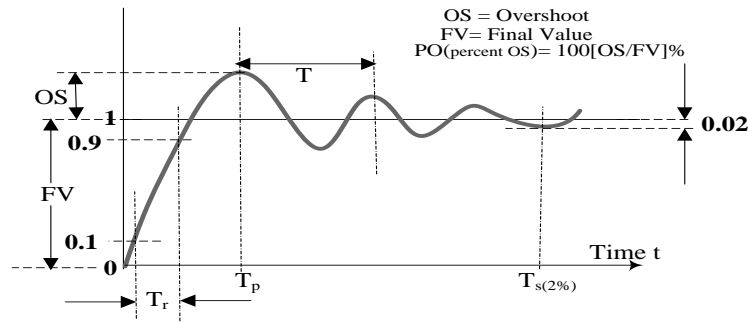

Figure 6.1: Typical unit response of a system
The typical unit step response of a second order system shown in Figure 6-1 is used to define various performance criteria such as the 10% to 90% Rise time ( $T_r$ ), the Peak time ( $T_p$ ), the percent overshoot (PO), the 2% Settling time ( $T_s$ ), and the Damped Natural Frequency ( $\omega_d = \omega_n \sqrt{1 - \zeta^2}$ ).